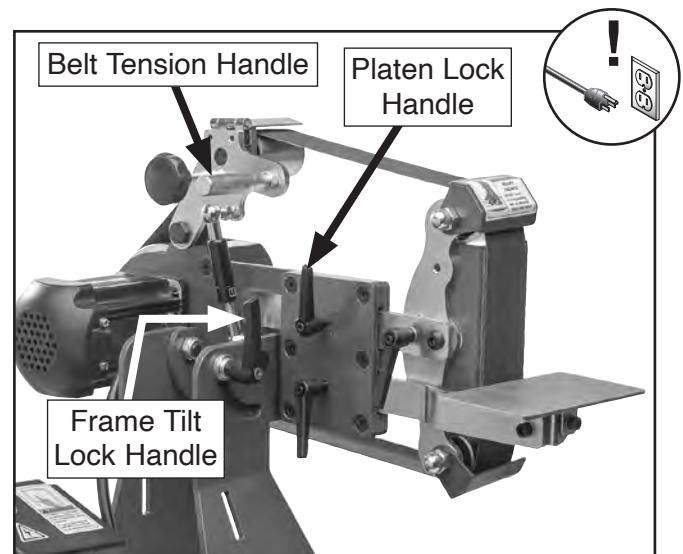

Figure 27. Location of platen lock handle, belt tension handle, and frame tilt lock handle.
- Loosen platen lock handle (see **Figure 27**).
- Push belt tension handle toward frame tilt lock handle (see **Figure 27**) to compress gas strut and release belt tension.